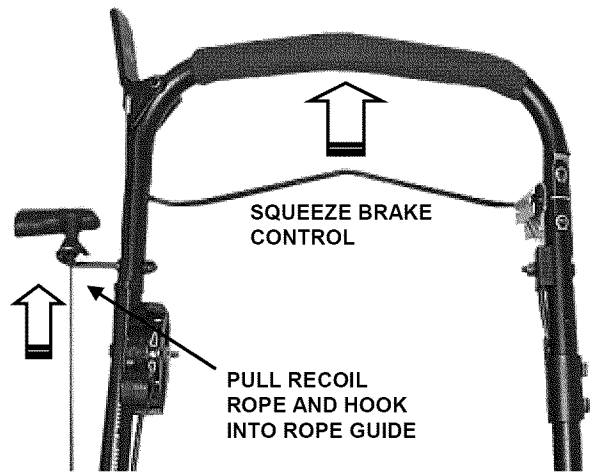

FIGURE 6
STEP 7: Squeezing brake control against upper handle, grasp engine recoil and pull firmly past recoil rope guide on right side of upper handle. Hook recoil rope into eye of rope guide. See Figure 6.